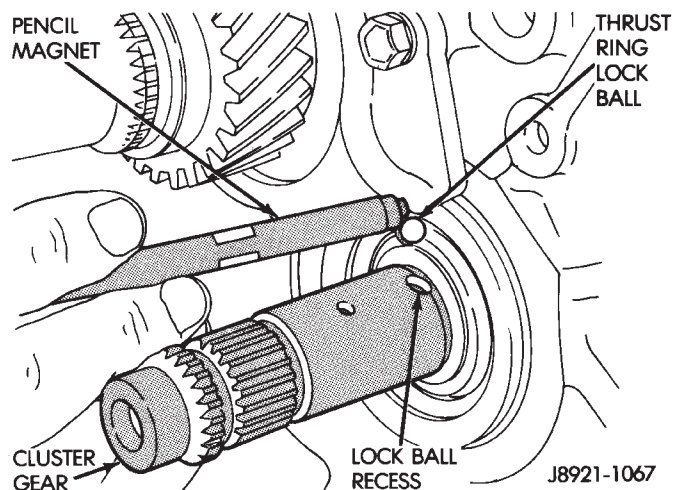

Fig. 56 Remove Fifth Gear Thrust Ring Lock Ball
- (8) Remove fifth gear thrust ring lock ball from countershaft (Fig. 56).